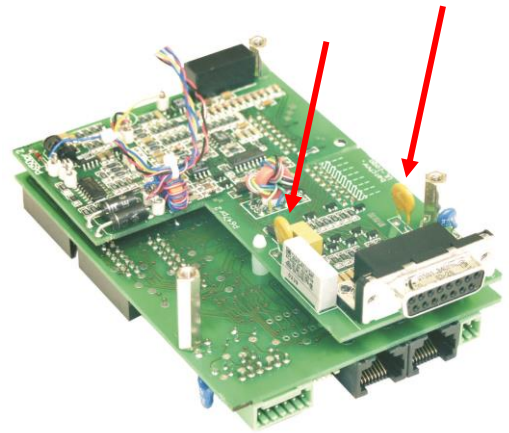

fig 5 - 1
- Check fuse F27_2 in series with Ø (pin 8 of CON E), see fig. 5 - 1. To check the fuse measure the voltage between Ø and the minus output, a high voltage means too much current flowing through the fuse. F27_2 = 650 mA, self resetting.